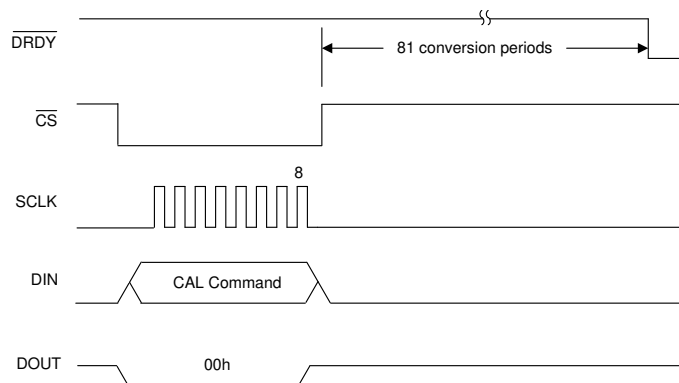

图 8-21. Calibration Command
- OFSCAL command. After the command is sent, $\overline{\text{DRDY}}$ is driven low 81 conversion periods later to indicate calibration is complete. The OFFSET register is updated with the new calibration value. As shown in Figure 8-21, the first data output uses the new OFFSET value.
- GANCAL command. Apply a positive dc full-scale calibration voltage. After the command is sent, $\overline{\text{DRDY}}$ is driven low 81 conversion periods later to indicate calibration is complete. The ADC calculates GAIN such that the full-scale code is equal to the applied calibration signal. As shown in Figure 8-21, the first data output uses the new GAIN value.